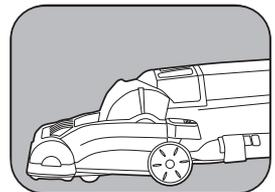

Fig. 4
3. Cleaning position - for normal cleaning (Fig. 3) and for cleaning under furniture (Fig. 4).